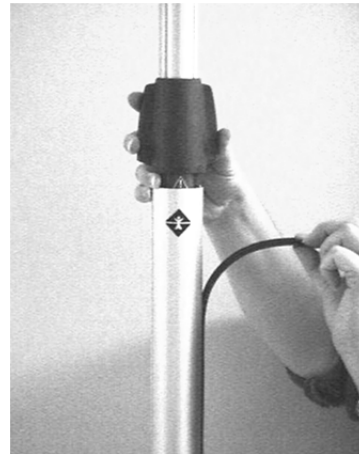

Figure 11
2. Remove the blue plastic strips from each side of the posts. Take one end and pull gently (see Figure 11).